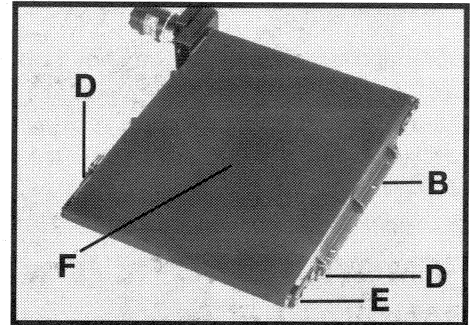
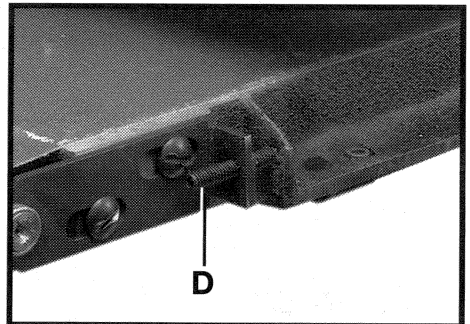
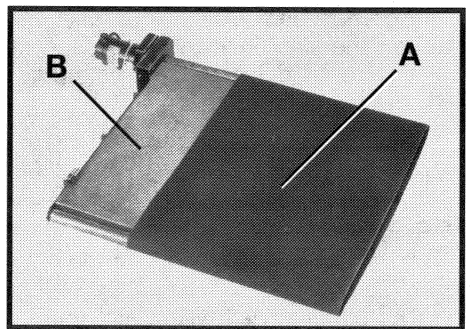

Fig. 33A
Fig. 33B
Fig. 34
5. Loosen the two socket head set screws (D) Fig. 33A and Fig. 33B equally at each side of the table until tension is relieved on roller (E).
6. Slide the feed belt (A) Fig. 34, off table (B). Place the new feed belt on the table and re-apply slight tension to the feed belt roller (E) Fig. 33A, by turning two screws (D). Tighten both screws an equal amount until at least one side of the belt starts to get tight. **NOTE:** The number of turns to tighten should be less than the number loosened in **step 5**.
7. Attach the table (F) Fig. 33A, to the support plate and adjust the tension and tracking on the feed belt. Refer to section "**CHECKING AND ADJUSTING TRACKING AND TENSION ON THE FEED BELT**" in this manual.